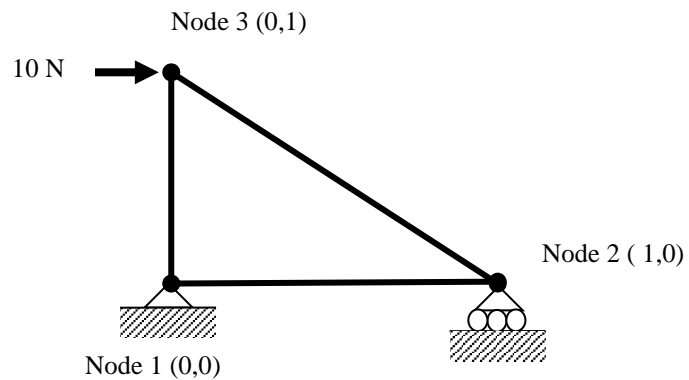

Figure 8
- (b) Show clearly in a step by step manner the development process of a stiffness matrix, $[K]^e$, for a triangular element in a state of plane stress as shown in **Figure 8**. Next calculate the displacements at node 3 and node 2. Given $E = 10^3 \text{ kN/m}^2$, $\nu = 0.3$ and $t = 0.5 \text{ m}$.